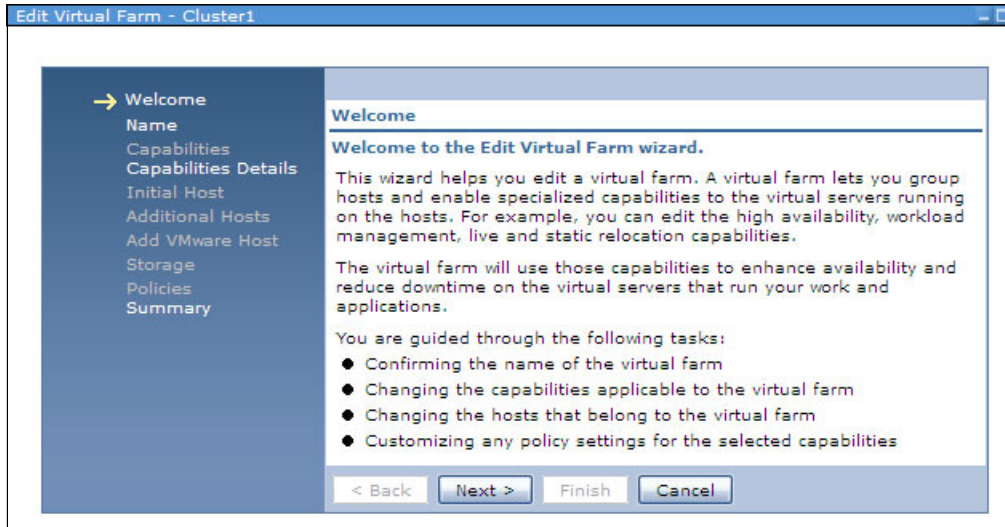

Figure 11-50 Edit Virtual Farm Welcome window
3. Click **Next** in the Welcome window, as shown in Figure 11-50.